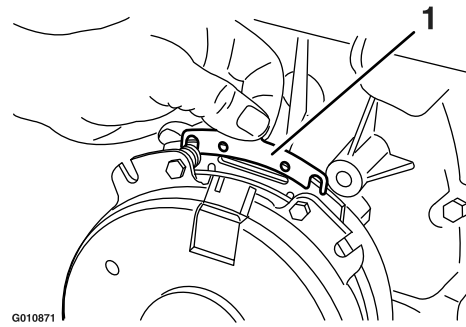

Figure 74
- B. Using needle-nose pliers, or by hand, hold the tab and remove the shim (Figure 74).